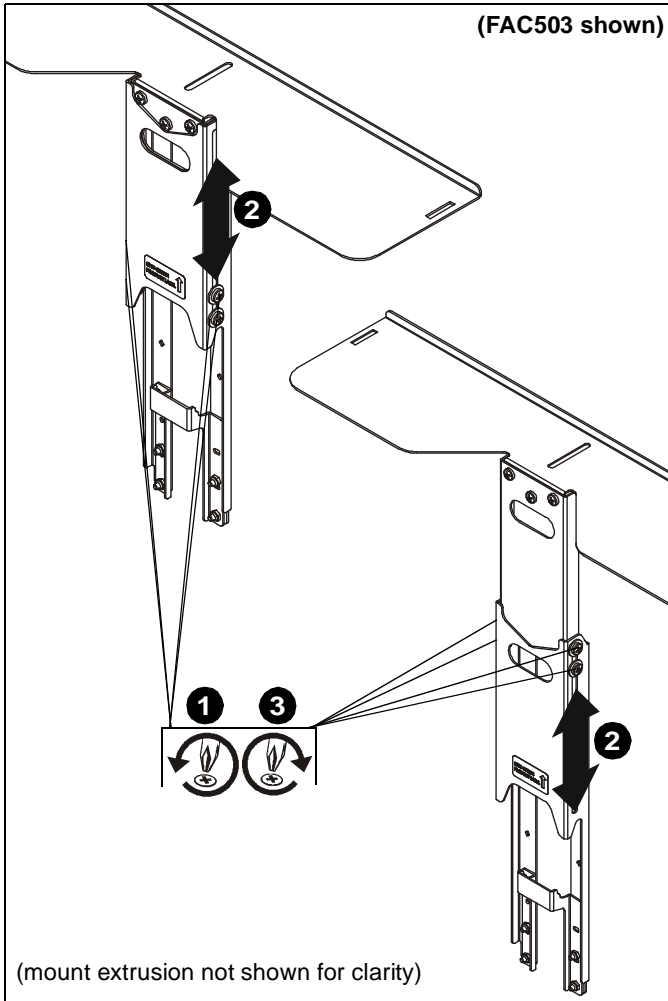

Figure 4
1. Loosen two screws on each side of upright. (See Figure 4)